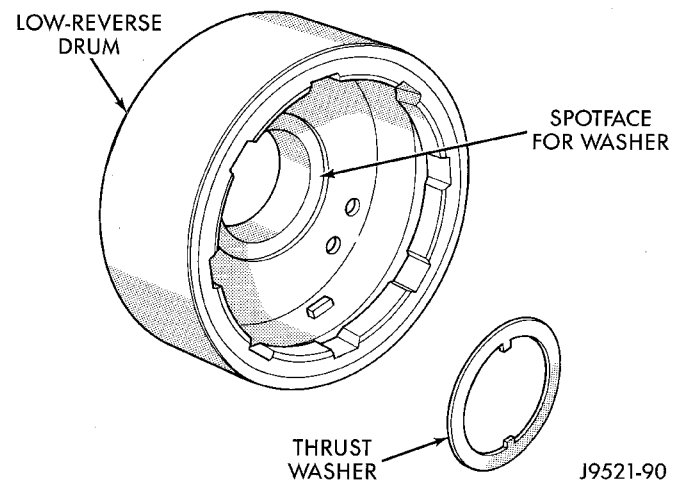

Fig. 116 Low-Reverse Drum And Thrust Washer
(27) Slide low-reverse drum and thrust washer off piston retainer hub and out of rear band (Fig. 116).